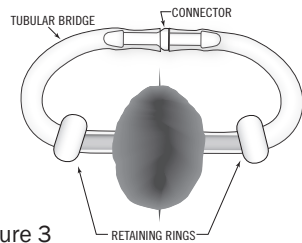

Figure 3
7. Use the CONNECTOR to join the ends of the TUBULAR BRIDGE to form a closed loop around the bowel. (See Figure 3.)